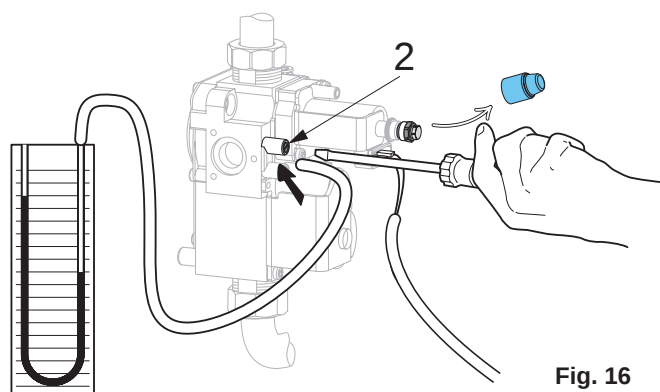

Fig. 16
- take off the adjusting screws protective cap (fig. 16).
- take off screw 2 and insert a tube connected to a pressure tap gauge (fig. 16).